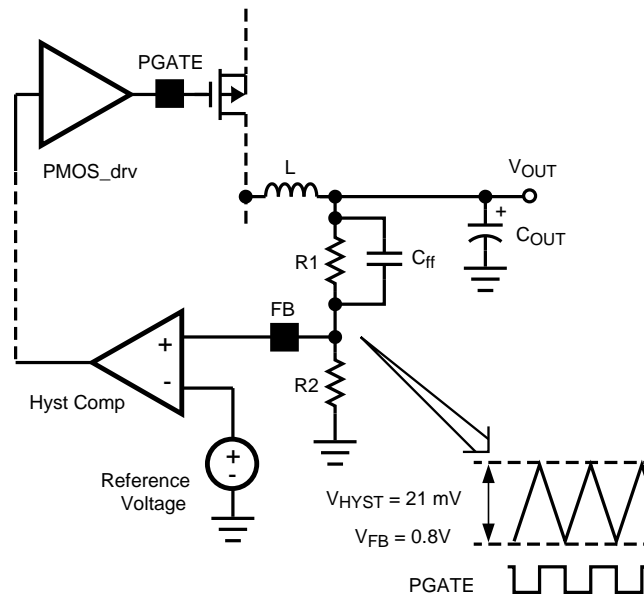

Figure 11. Hysteretic Window
The output voltage is programmed using a resistor divider between V_{OUT} and GND as shown in Figure 11. The feedback resistors can be calculated as follows:
The operating frequency and output ripple voltage can also be significantly influenced using a speed up capacitor, C_{ff} , as shown in Figure 11. C_{ff} is connected in parallel with the high side feedback resistor, R1. The output ripple causes a current to be sourced or sunk through this capacitor. This current is essentially a square wave. Since the input to the feedback pin (FB) is a high impedance node, the bulk of the current flows through R2. This superimposes a square wave ripple voltage on the FB node. The end result is a reduction in output ripple and an increase in operating frequency. When adding C_{ff} , calculate the formula above with $\alpha = 1$. The value of C_{ff} depends on the desired operating frequency and the value of R2. A good starting point is 1nF ceramic at 100kHz decreasing linearly with increased operating frequency. Also note that as the output voltage is programmed below 1.6V, the effect of C_{ff} will decrease significantly.